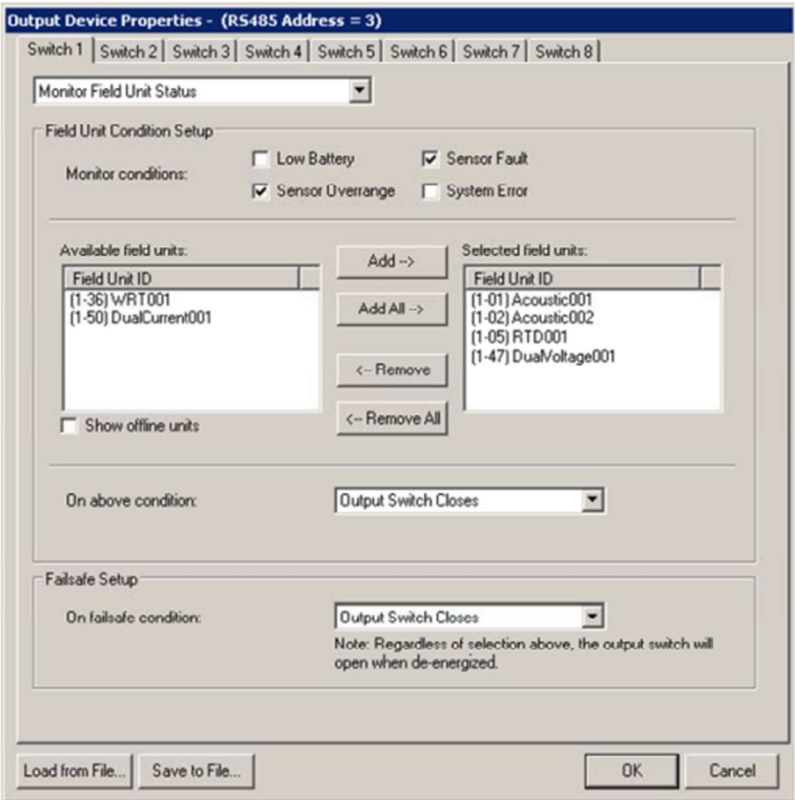

Fig. 5.2.5 Monitor Field Unit Status
5.2.3: Monitoring Field Unit Stations The monitoring of a Field Unit’s status mode is used to open and close the switch output based on the current status of a Field Unit(s). Once this mode has been selected in the dropdown box, the menu in Figure 5.2.5 (on the next page) will appear.